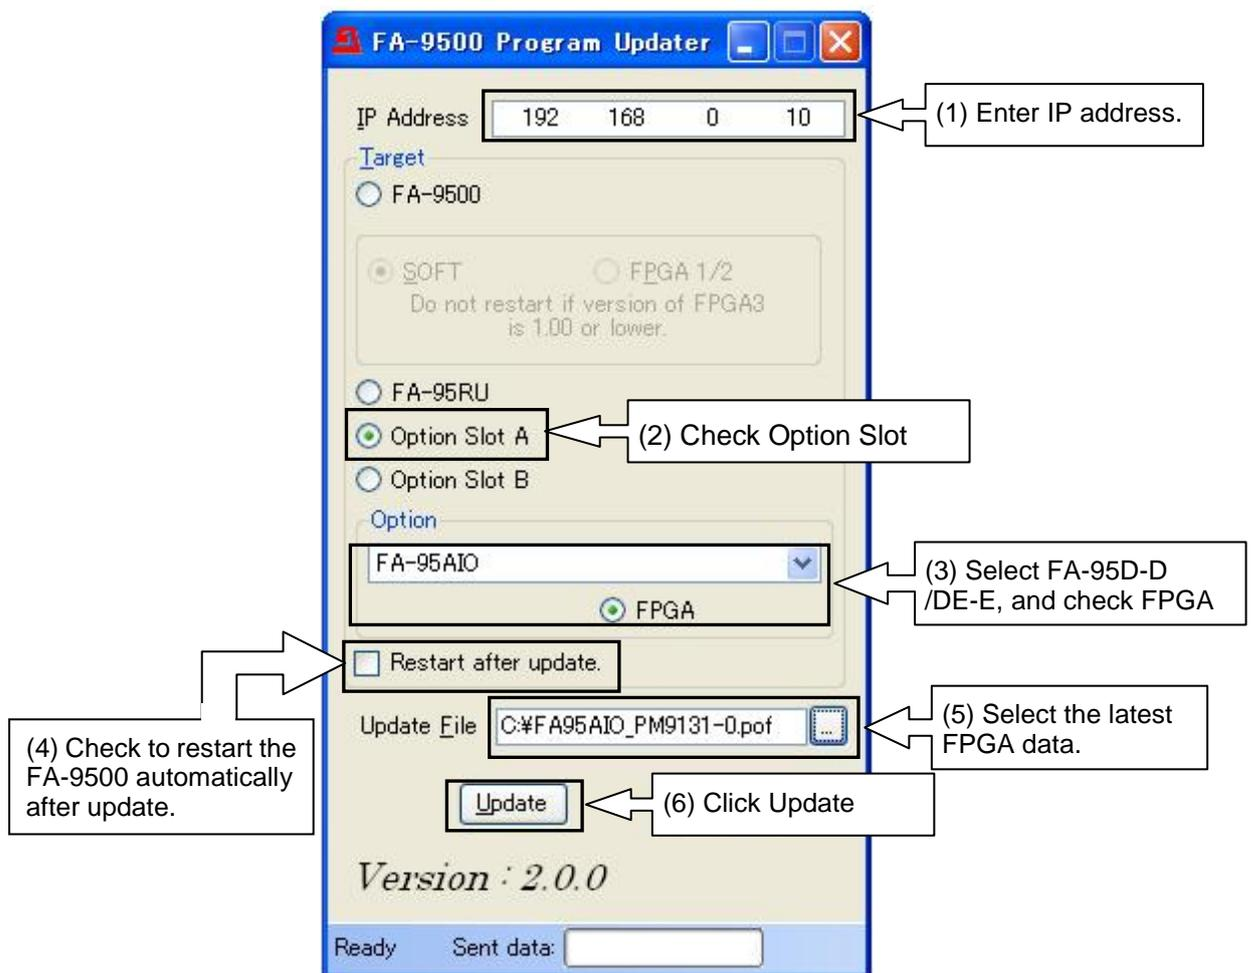

Fig. 35 FA9500ProgramUpdater window for FA-95AIO software settings
3. Enter the IP address (default IP address: 192.168.0.10)(Fig. 35.(1)).
4. Check Option Slot A or B in the Target section. (Fig. 35 (2))
5. Select **FA-95AIO** under Option, then check **FPGA**. (Fig. 35 (3)) To automatically restart the FA-9500 after update, check **Restart after update**. (Fig. 35 (4))
6. Select the latest FPGA data under **Update File** (Fig. 35 (5)).
7. Click **Update** to start updating (Fig. 35 (6)).